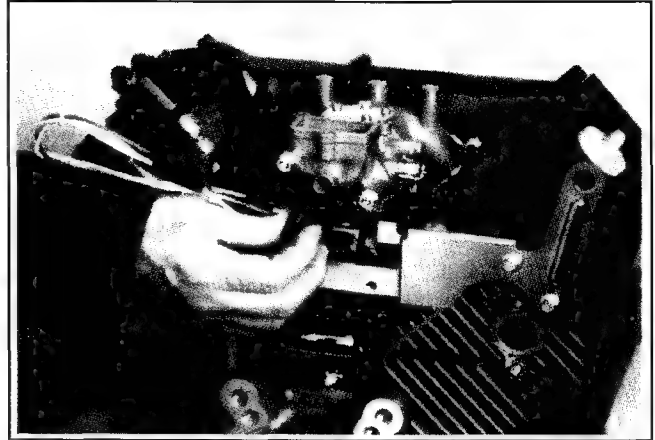

Figure 9-7. Disconnecting Breather Hose.
1. Loosen the hose clamp holding the upper end of the breather hose on the flange of the carburetor elbow. Pull the end off the flange. See Figure 9-7.